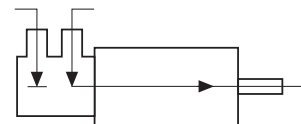

Fig 1
- (1) Patient air inlet (through air filter)
- (2) Bellows
- (3) Check valve (closed during inspiration)
- (4) Check valve (closed during expiration)
- (5) Magnetic valve MV 1 (Normally set as per fig. 1. Switches at auto-calibration of G1 according to fig. 2.)